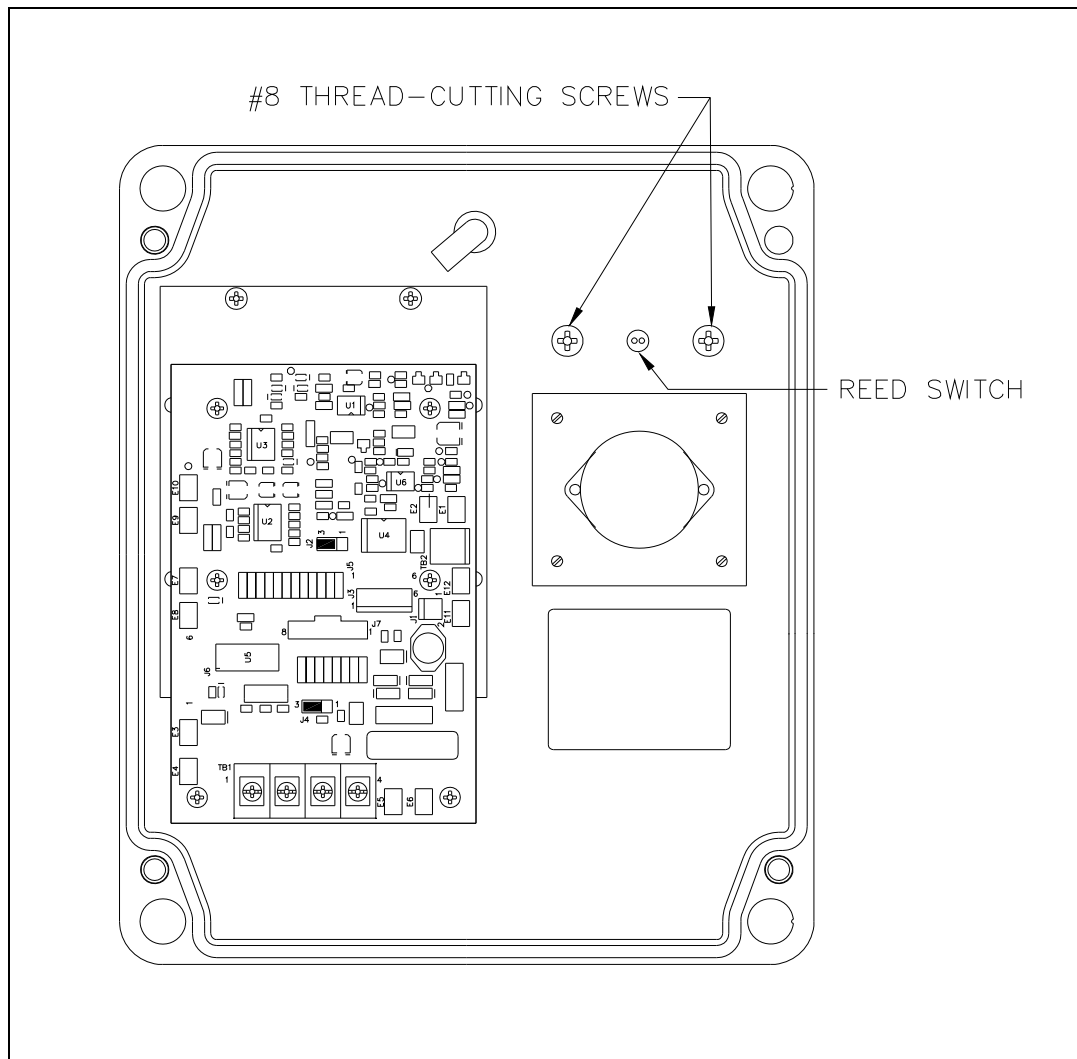

Figure 1. Telephone—Inside Front Panel
6. Remove the two screws that secure the handset cradle to the front cover (See Figure 1).
2. Thread the blue and white reed switch leads through the center top hole (See Figure 1).
3. Secure the plastic cradle on the front cover using the two #8 thread-cutting screws (See Figure 1).
5. Remove the two screws that secure the handset cradle to the front cover (See Figure 1).
1. Thread the reed switch leads through the center top hole (See Figure 1).
2. Secure the plastic cradle on the front cover using the two #8 thread-cutting screws (See Figure 1).